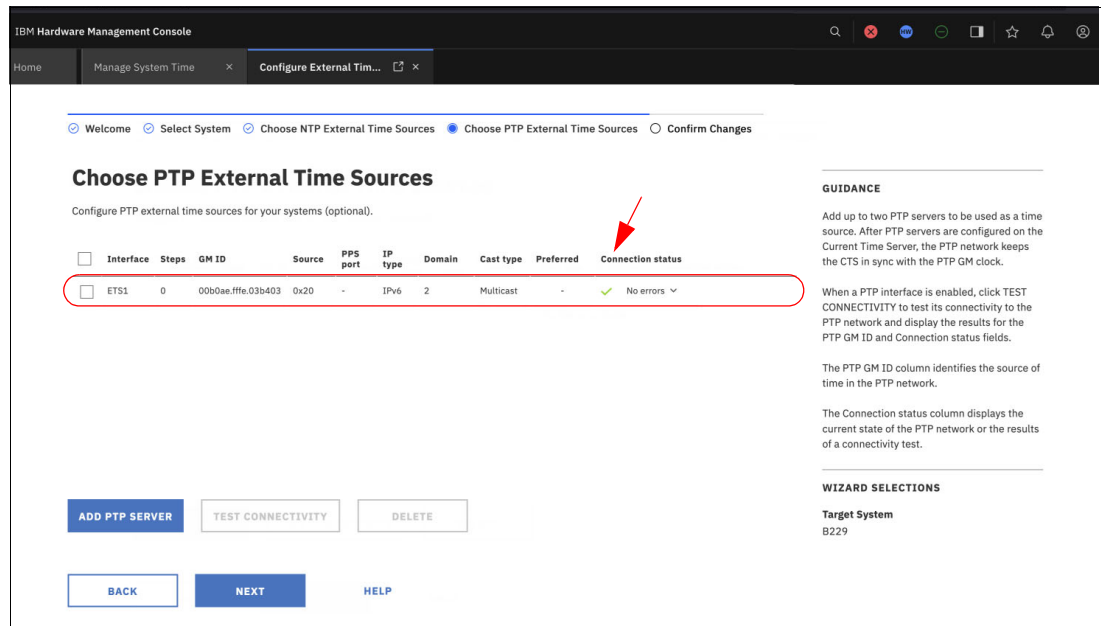

Figure 4-24 First PTP source configured and tested
12. After you test and verify connectivity, you can view the definition of the PTP source (Figure 4-24 on page 80).